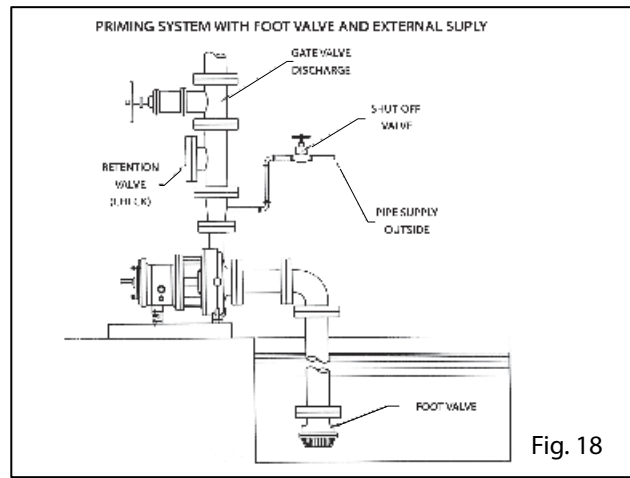

Fig. 18
- 6.- When the suction is negative, i.e. when the pump is above the suction level (see Figure 18) all joints must be airtight, suction piping must be without air bags, this requires installing a foot valve.
An aspiration valve and external liquid can be used in order to prime the pump, as shown in Figure 18 and 19. The external liquid can be obtained from a priming pump, a depressurized discharge pipe or an external supply.